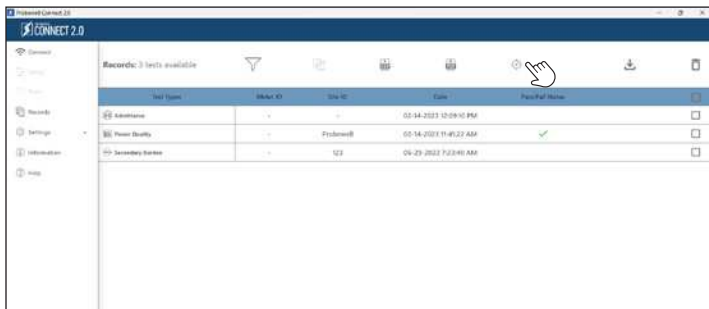

Fig. 12 – Probewell Connect 2.0 Records section: Export Accuracy Report (PDF)
3. In **the Records section**, the Accuracy Test button for the WT Series is located in the upper right of the control bar (Figure 12).